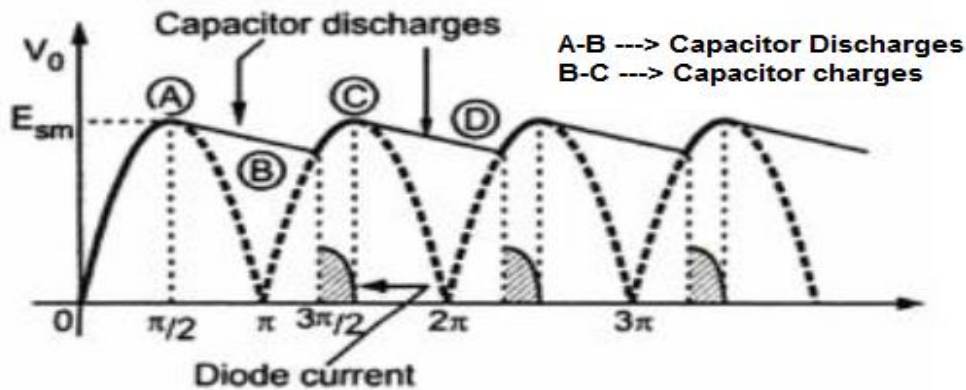

Fig. 2.10 Waveforms of Capacitor input filter with Full wave rectifier
- It discharges to point B shown in the Fig. 2.10
- Again at point C, diode D_2 stops conducting and capacitor supplies load and starts discharging upto point D in the next quarter cycle of the rectified output voltage as shown in the Fig. 2.10.